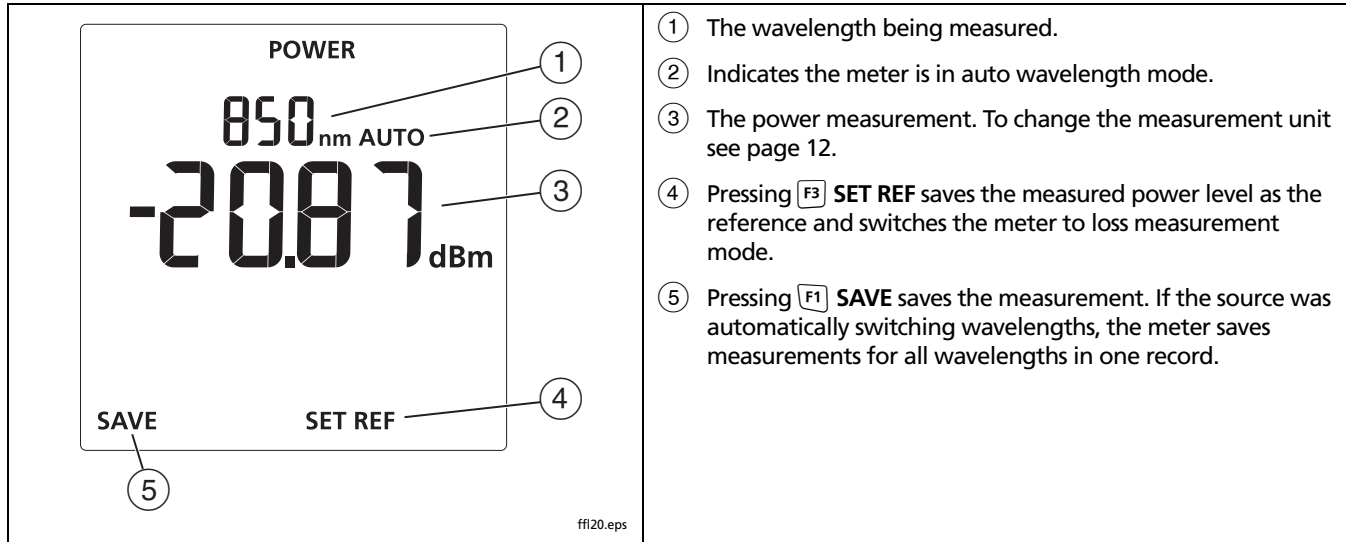

Figure 8. Power Measurement Display
- 2 On the meter, press  until **POWER** appears (Figure 8.)
- 5 On the meter, press  until **POWER** appears (see Figure 8 on page 24).